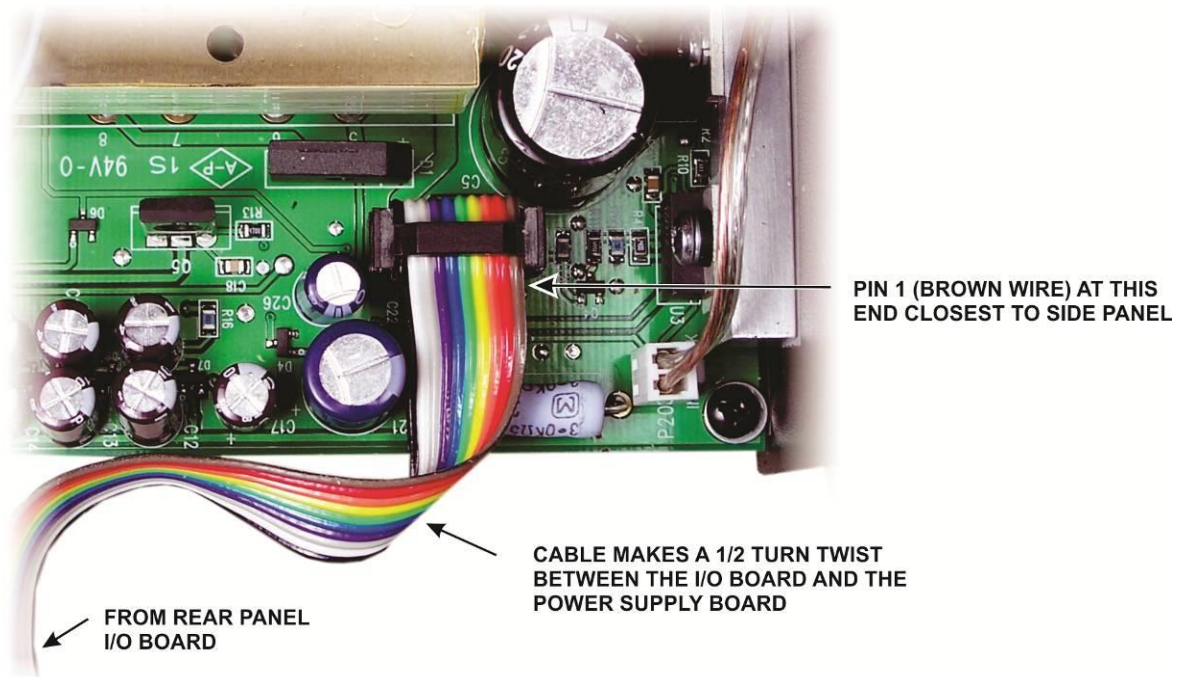

Figure 36. Connecting the 10-Wire Ribbon Cable to the Power Supply Module.
□ Connect the 10-wire ribbon cable to the power supply module as shown in Figure 36. **Note the brown wire (pin 1) must go to the end of the connector nearest the KPA500 side panel. To do so it makes a 1/2 turn twist. Be certain the connector engages both rows of pins.**